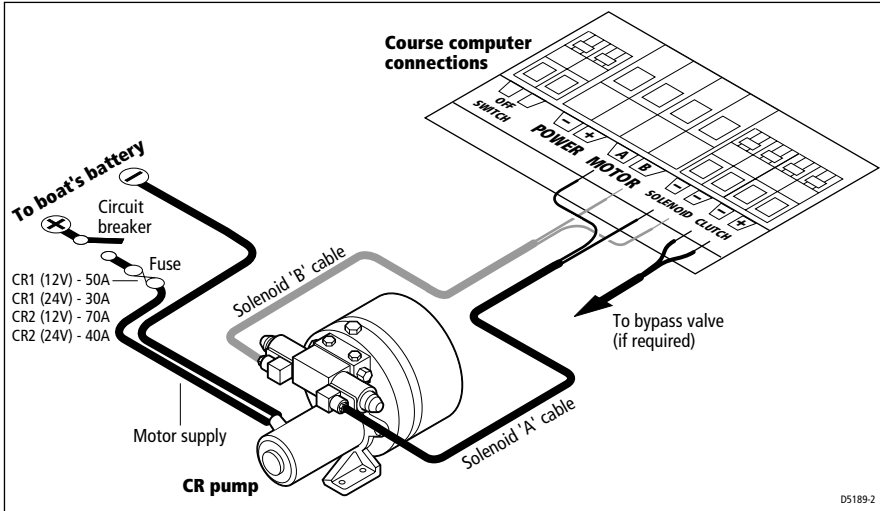

Figure 6: CR pump connections to a Type 150/400 course computer
- using appropriate cables (see *Table 2*) connect the CR pump motor to the boat's power supply, via an appropriate circuit breaker and fuse (as specified in *Figure 6*)
- for the first valve: connect one core to the **MOTOR A** terminal and the other core to one of the **SOLENOID** terminals at the course computer (see *Figure 6*)